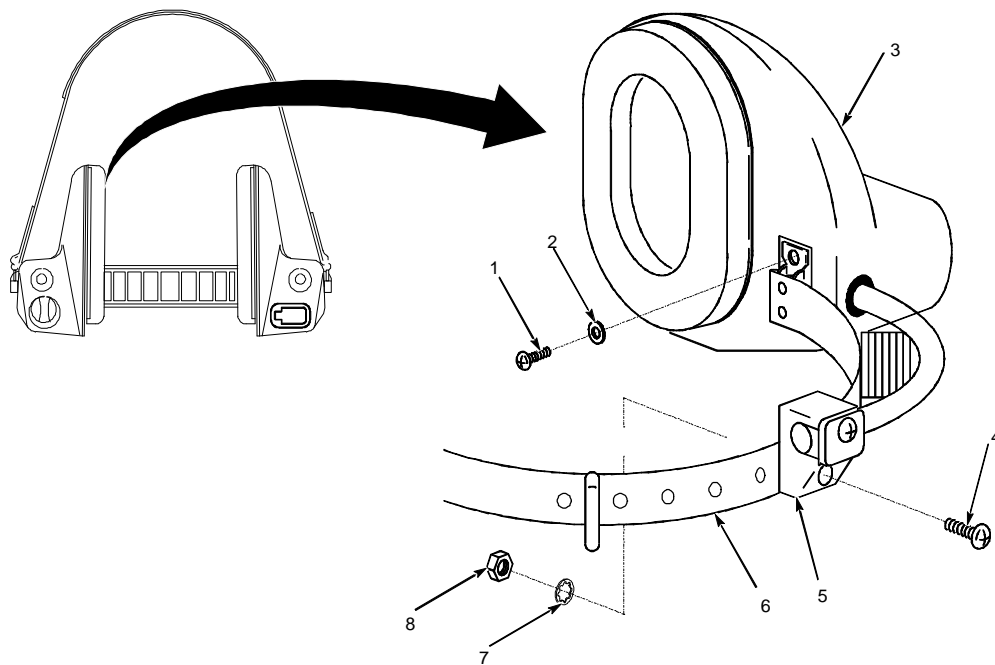

Figure 3-22. Neckband (Spring Assembly)
3.9.4. Neckband (Spring Assembly) Removal and Replacement (Fig. 3-22)